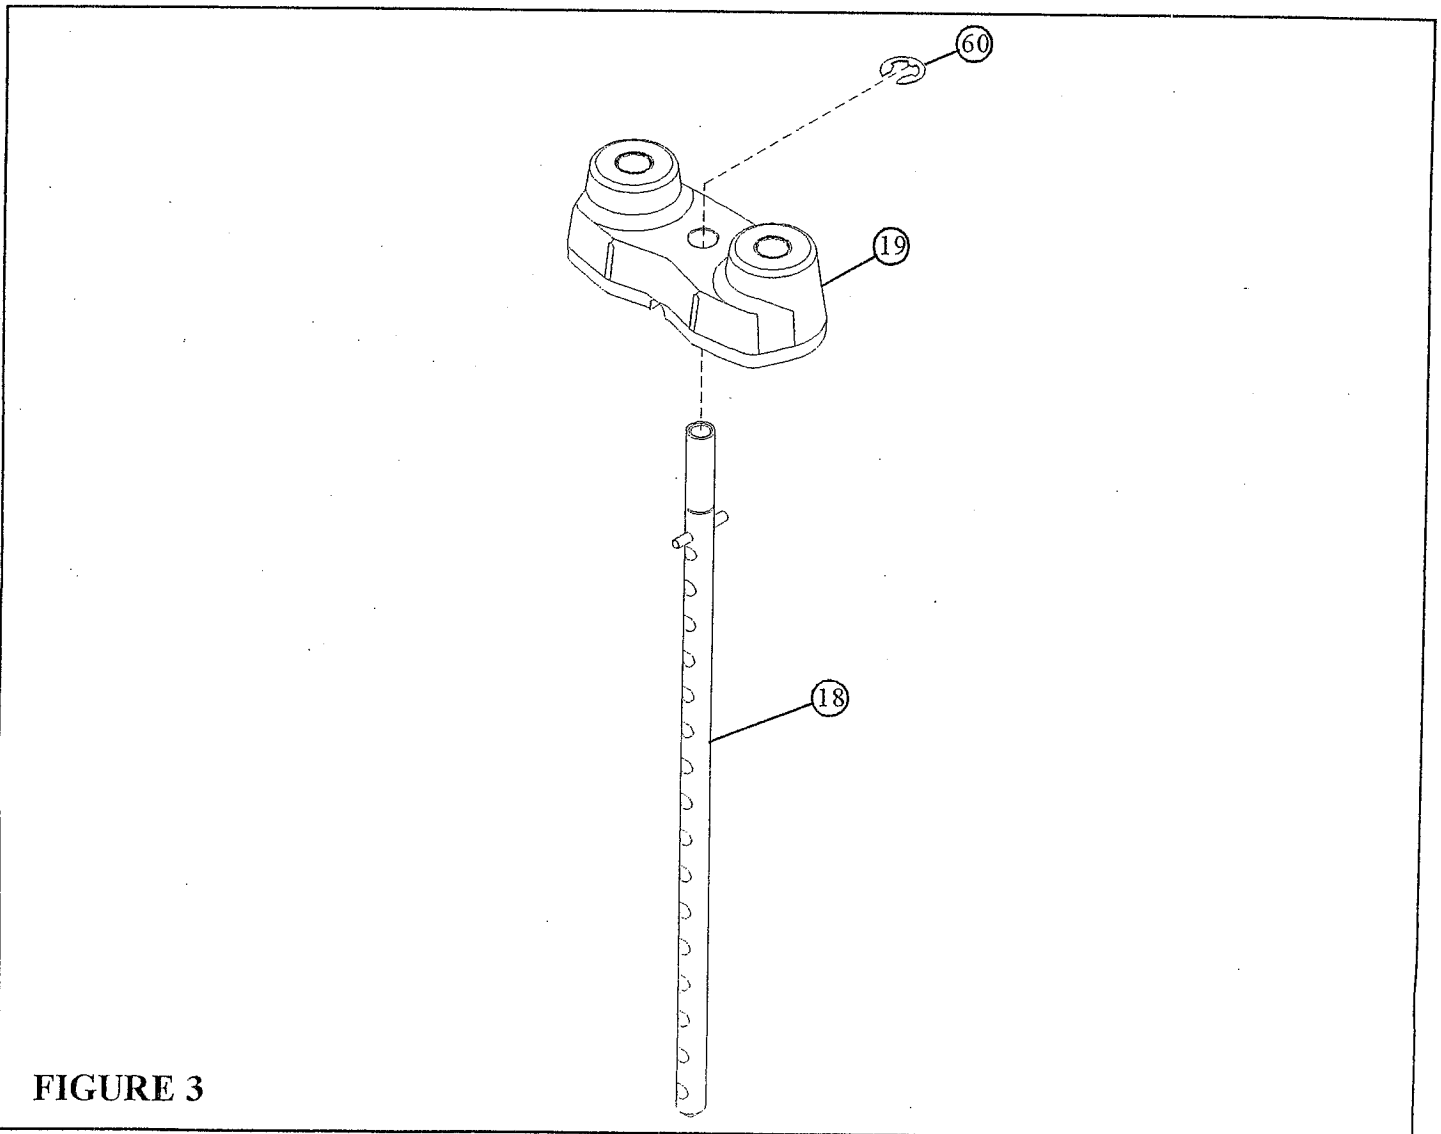

FIGURE 3
- Slide the WEIGHT PLATE SHAFT (18) thru the hole in the HEAD PLATE (19), and lock in place using one E-RING (60) as shown in FIGURE 3.